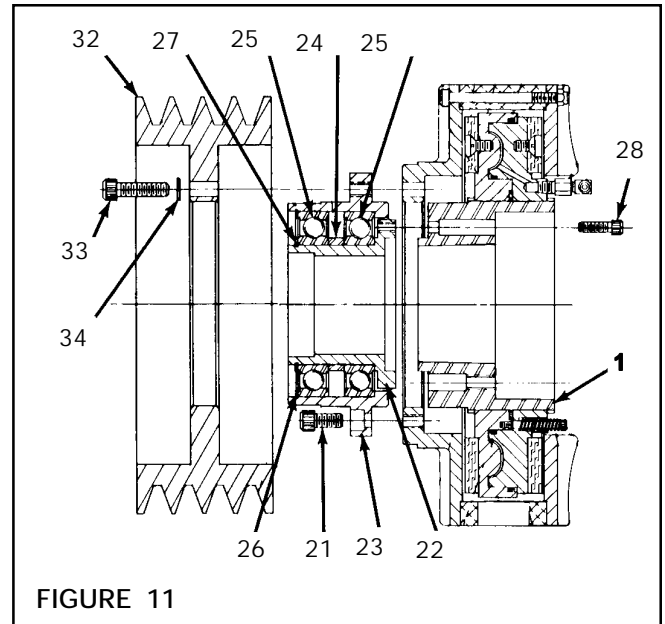

FIGURE 11
4. Remove the Cap Screws (Item 33), Lockwashers (Item 34), and Sheave (Item 32) if mounted to the DPC Clutch (See Fig. 11).
5. Remove Cap Screws (Item 28) (See Fig. 11).
6. Remove Cap Screws (Item 21) (See Fig. 11).
7. Remove the Pilot Assembly from the Element Clutch (See Fig. 11).
8. Remove Retaining Ring (Item 27) from the Pilot Assembly (See Fig. 11).
9. Fully supporting the Pilot Housing (Item 32); press the Hub Extension (Item 22) out of the Pilot Assembly (See Fig. 11).
10. Remove Retaining Ring (Item 26) (See Fig. 11).
11. Fully supporting the Pilot Housing (Item 23); push out the Bearings (Item 25), and Spacer (Item 24) (See Fig. 11).